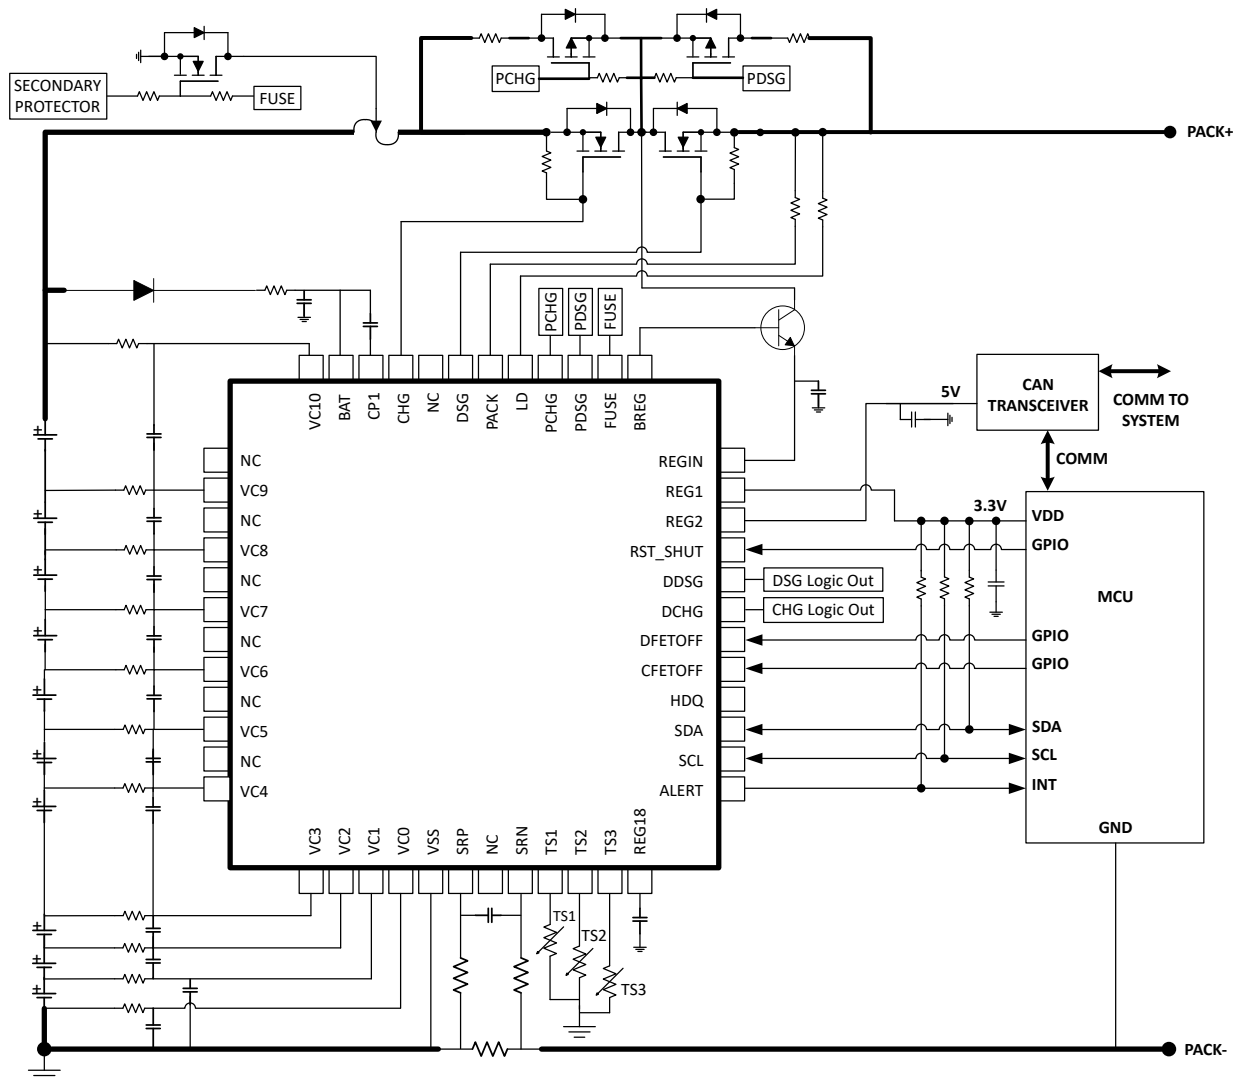

Figure 16-1. BQ76942 10-Series Cell Typical Implementation (Simplified Schematic)
Figure 16-1 shows a simplified application schematic for a 10-series battery pack, using the BQ76942 together with an external secondary protector, a host microcontroller, and a communications transceiver. This configuration uses CHG and DSG FETs in series, together with high-side PFET devices used to implement precharge and pre-discharge functionality. See the following implementation considerations:
- Power dissipation, which can be a factor of the RDS(ON) rating of the FET, the FET package, and the PCB design.
- The overdrive level of the BQ76942 device charge pump should be selected based on RDS(ON) requirements for the protection FETs and their voltage handling requirements. If the FETs are selected with a maximum gate-to-source voltage of 15 V, then the 11-V overdrive mode within the BQ76942 device can be used. If the FETs are not specified to withstand this level, or there is a concern over gate leakage current on the FETs, the lower overdrive level of 5.5 V can be selected.
- A diode can optionally be included in the collector circuit of the BJT, in order to avoid reverse current flow from BREG through the base-collector junction of the BJT to PACK+ during a pack short circuit event. This diode can be seen in Figure 16-1 at D2.